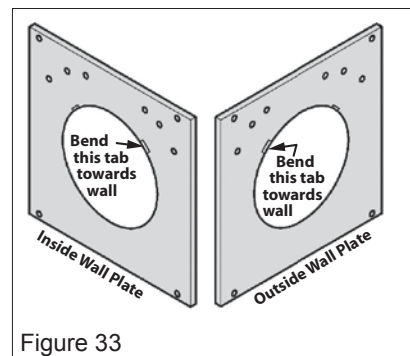

Figure 33
2. Bend the inner wall plate tab as shown in figure 33 so that the seam on the terminal tube will pass clearly through the plate with the wall shield at the top. Place the inner wall plate over the terminal unit.